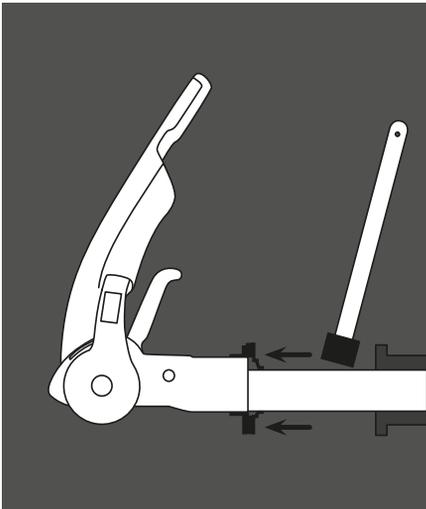

Figure 12 - Remedial action
- b. Lubricate the draw shaft sleeve via the grease nipples. In addition, push the gaiter forward and grease (DIN 51 825 KTA 3K) the exposed part of the shaft (Fig 12).